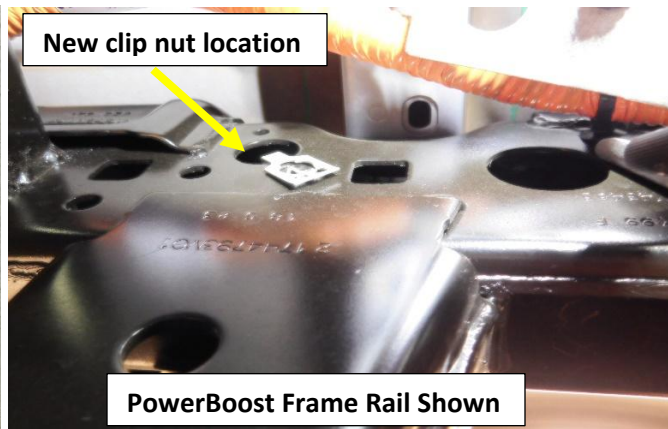

Figure.11
The FACTORY Left side tail pipe frame hanger assembly will not be used for Standard or PowerBoost models. The Flowmaster Frame hanger 535HA (17) will be installed in its place. It will be necessary to relocate the factory Clip nut to a different location in the frame rail if it is not already there. Most Standard F150 frame hanger assemblies use the correct location, PowerBoost vehicles will need the clip nut relocated as shown in Figure. 11/12
2. Remove one of the existing frame hanger clip nuts and re-install it into the frame rail at the location in **Fig.11**.